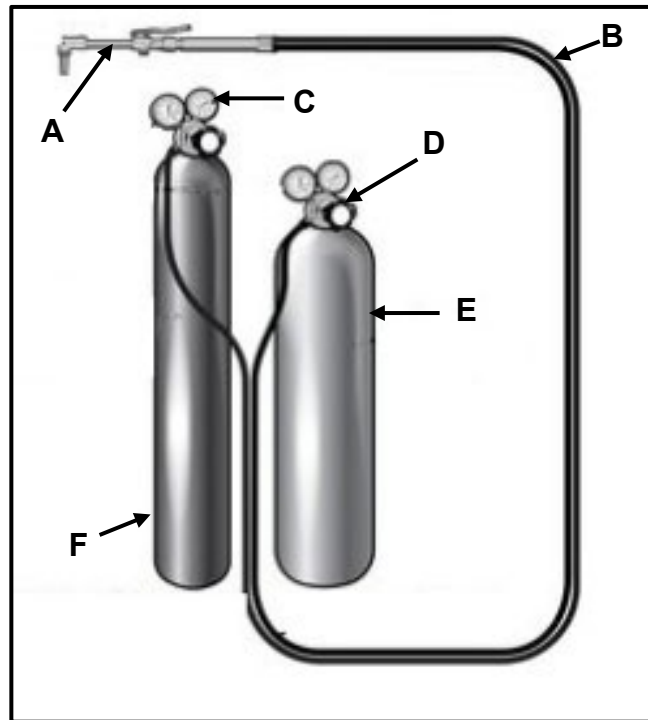

FIGURE 6.3
- 6.3 FIGURE 6.3 below shows a gas welding set-up. Answer the questions that follow.